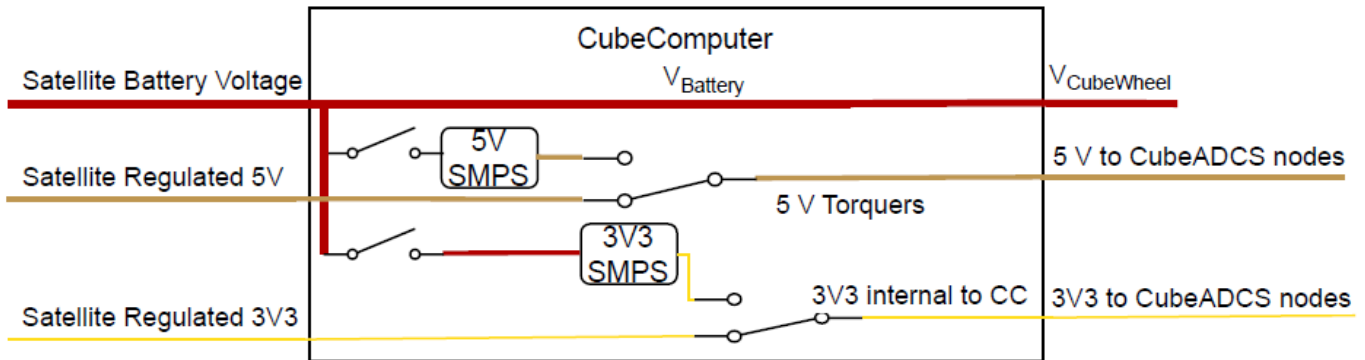

Figure 7: CubeADCS External Regulation from EPS Input
- The second option is to supply all voltage domains with the appropriate regulated voltage from the satellite EPS. This will require more connections than the first option. This option will also disconnect and isolate the switched mode power supply circuit from the CubeADCS. This is shown in Figure 7.